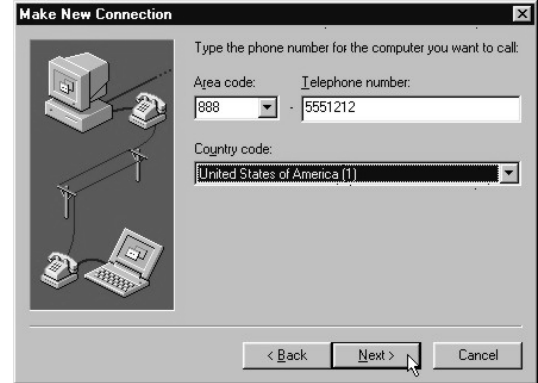

Figure 16 - Phone Number Entry
15. Type in the Area Code, Phone Number, and Country code for the ISP you are using then click NEXT. (Fig. 16)